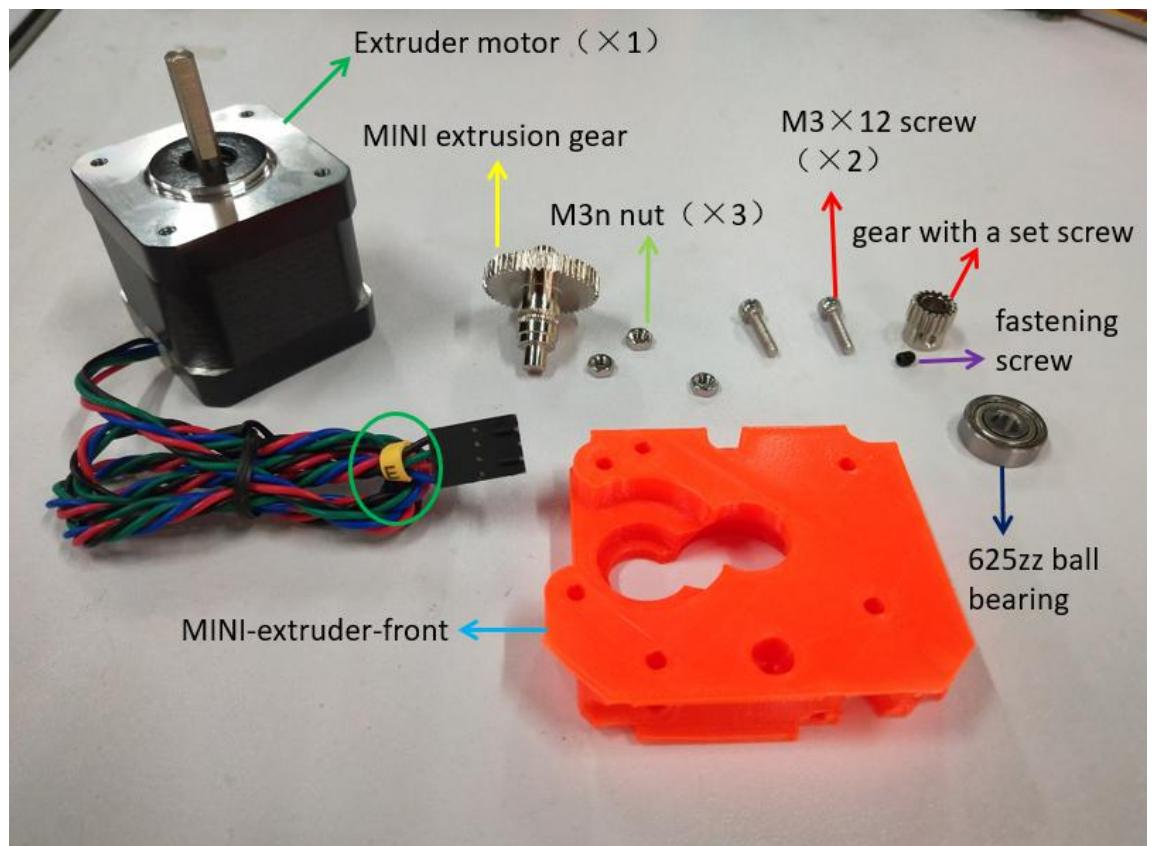

Figure 2.1.1
**Step 2-1-1:** As shown in Figure 2.1.1, prepare the materials and check whether the quantity of materials is correct, and prepare for the next installation.